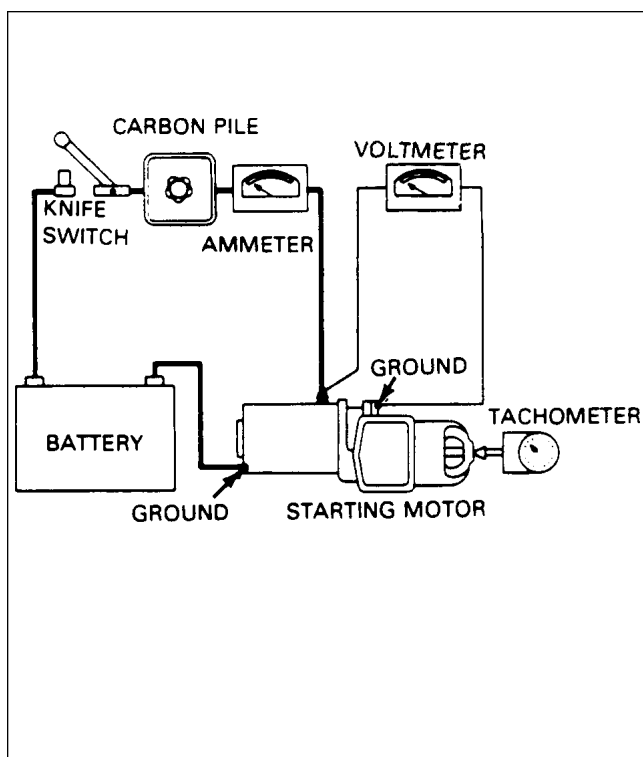

Figure 80-5. No-Load Test Hookup
1. After starting motor is assembled test to see that the no-load current at a certain voltage is per specifications in starting motor service test specifications. To test, connect as shown in figure 80-5. If current is too high, check bearing alignment and end play to make sure there is no binding or interference. Two or three sharp raps on frame with a rawhide hammer will often help to align bearings and free armature.